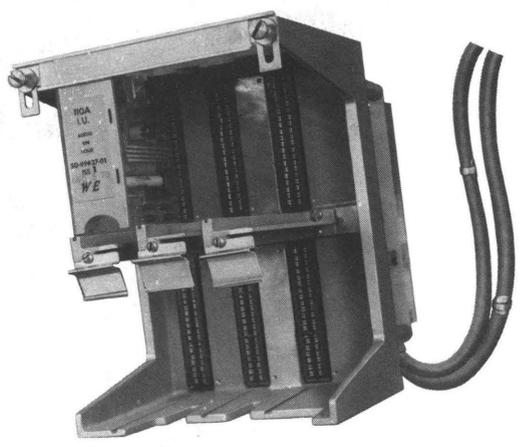

Fig. 51—606A Panel
**2.53 606A Panel**—Approximately 6 inches wide by 8 inches high and 9 inches deep. Provides fusing and connections for six 109A, 110A, or 111A interconnecting units. Intended for relay rack mounting on a 99B bracket. (See Fig. 51.) Requires separate power supply.